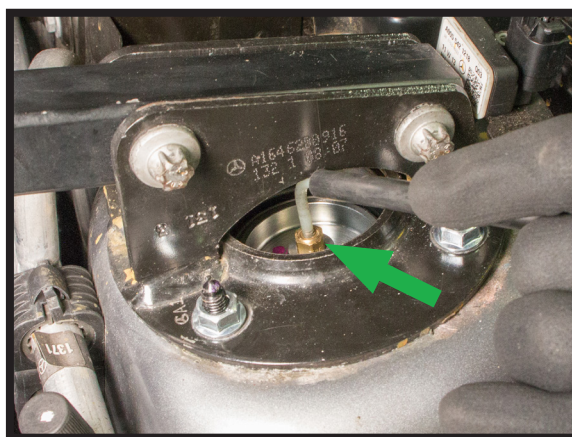

FIGURE 19
8. REMOVE THE PLASTIC SHIPPING PIN FROM THE AIR INLET FITTING, PUSH THE AIR HOSE IN UNTIL FULLY SEATED INTO PLACE (AIR LINE WILL NOT PULL OUT WHEN INSERTED PROPERLY). (FIGURE 19)